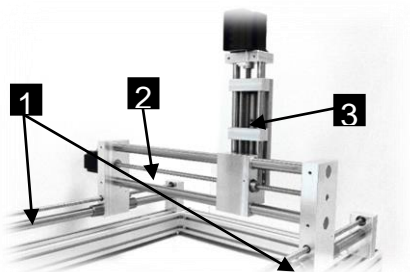

Figure 27: Trapezoidal threaded spindle
2. Grease the Trapezoidal Thread Spindle of the X-axis (Fig. 27/1), the Y-axis (Fig. 27/2) and the Z-axis (Fig. 27/3) well using a low-friction grease wetted cloth DIN 61650 or alternatively apply the fat with a suitable brush.